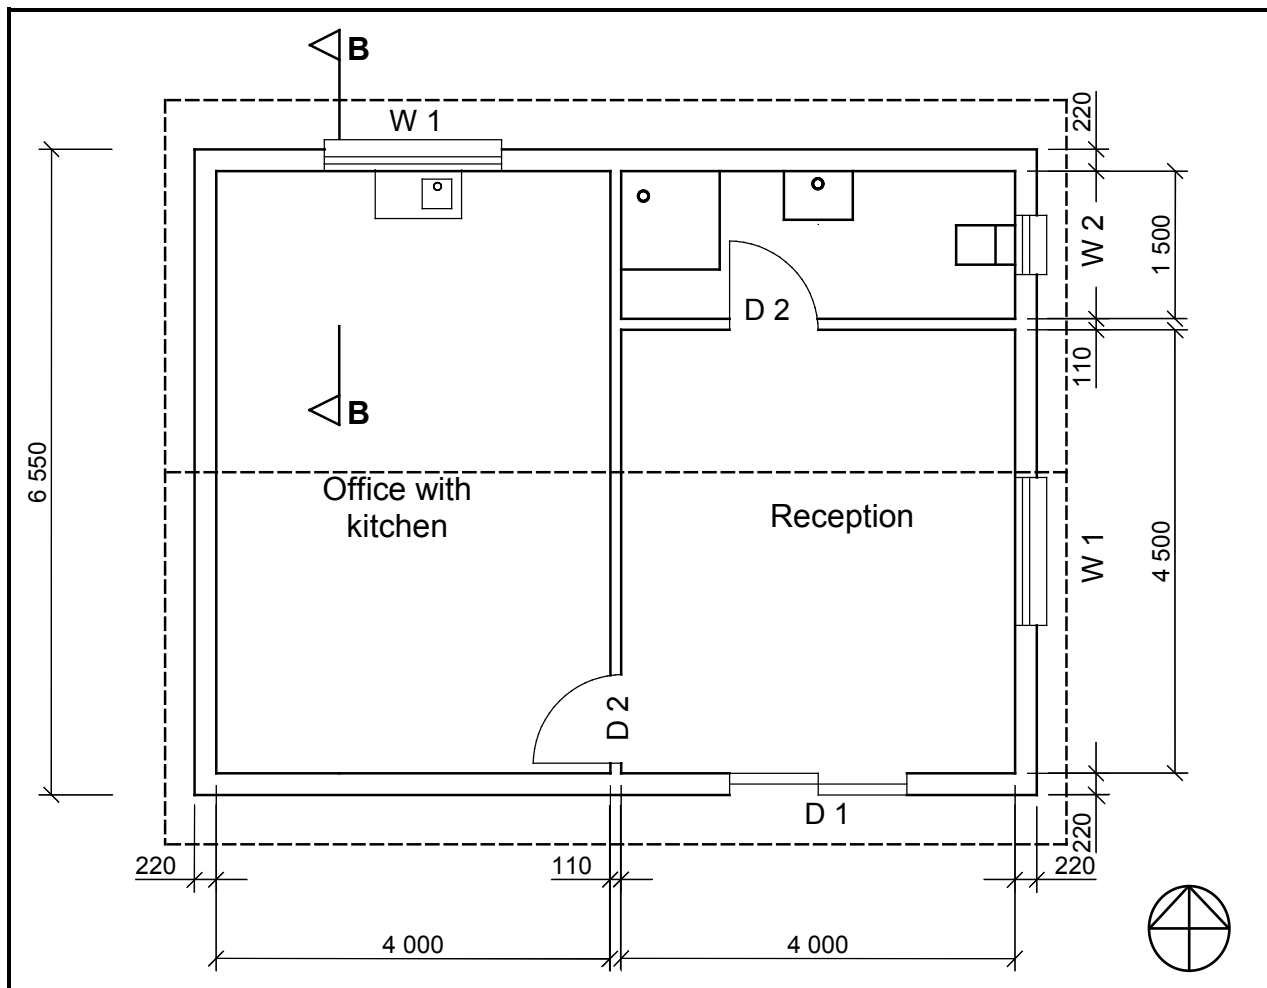

FIGURE 6.2
6.2 FIGURE 6.2 below shows the floor plan of an office with a reception area.